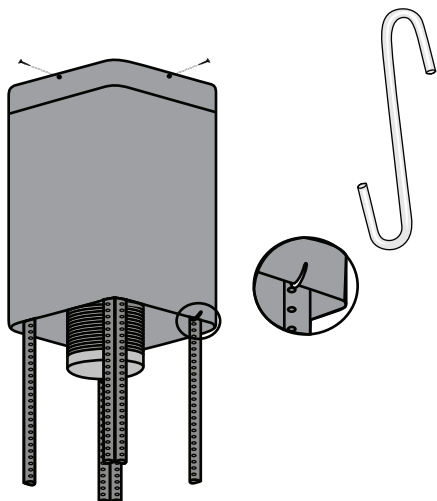

Figure 6
- Use 4 pieces ST4 × 8 mm mounting screws to attach the upper chimney into the hanging board and hold up the lower chimney with the supplied 'S' hook (see Figure 6).